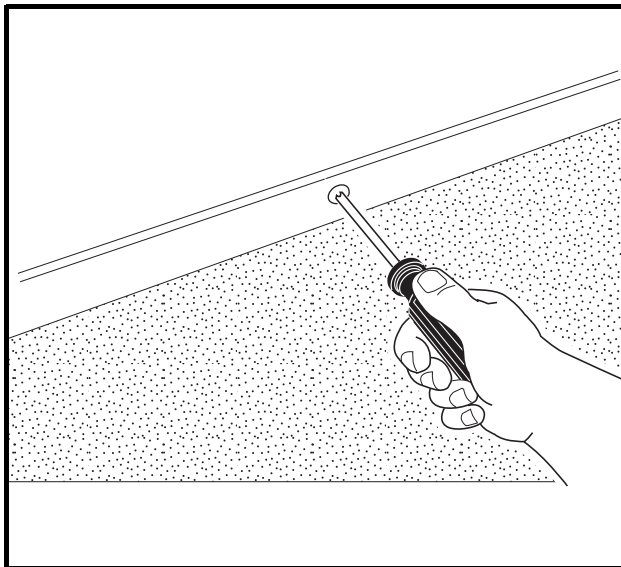

Figure 4-13 Remove Kick-Plate Screws
4. Remove the two screws, nuts and washers located at the bottom edge of the seat support panel (in kick-plate just above the floormat) (**Figure 4-13, Page 4-10**).